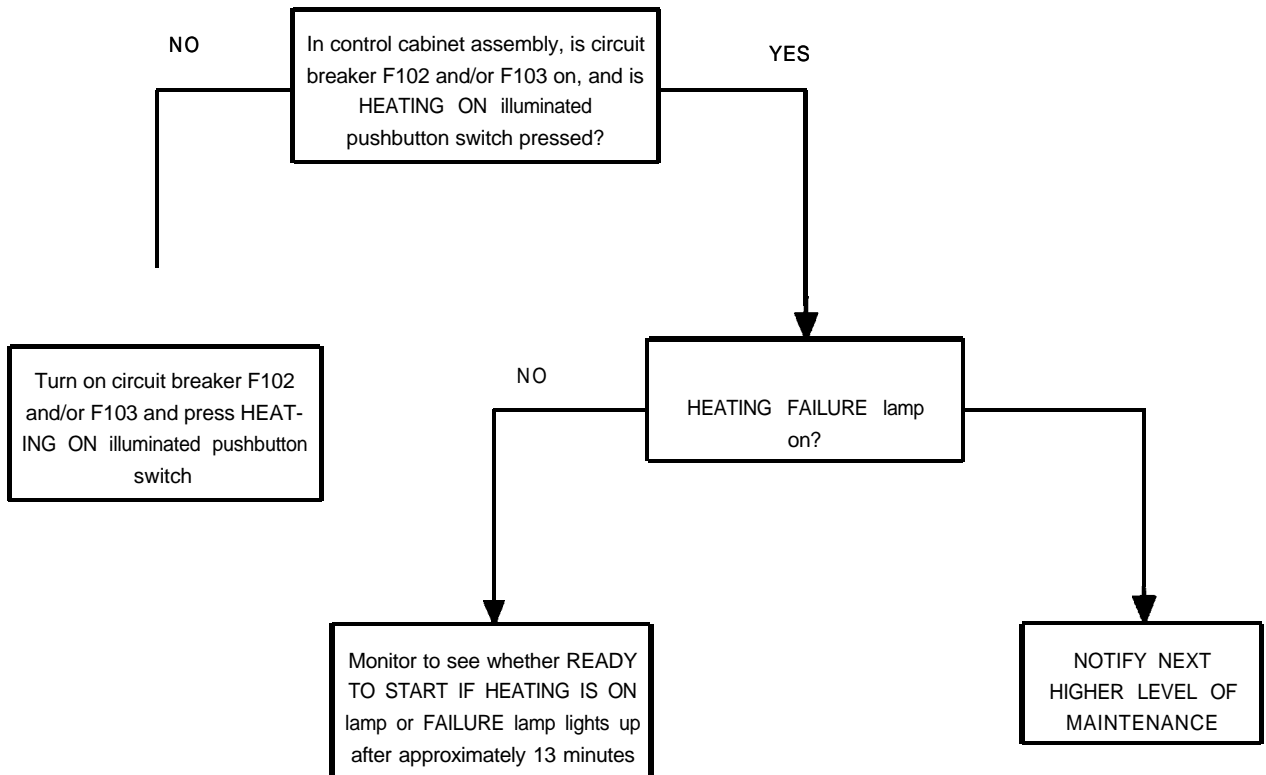

Figure 3-2 HEATING FAILURE lamp lights up or READY TO START IF HEATING IS ON lamp does not light up.
- f. If the HEATING ON lamp lights up before the READY TO START IF HEATING IS ON lamp (4) lights up, press the HEATING ON illuminated pushbutton switch (6) again.
- g. If the diesel engine is started before the READY TO START IF HEATING IS ON lamp lights up, shut down the heating system with the HEATING OFF pushbutton switch (7).
Troubleshoot using figure 3-2 if the HEATING FAILURE lamp (5) lights up, or if the READY TO START IF HEATING IS ON lamp does not light up (i.e. the engine preheating assembly is not operating properly).
HEATING FAILURE lamp lights up or READY TO START IF HEATING IS ON lamp does not light u p.	Figure 3-2